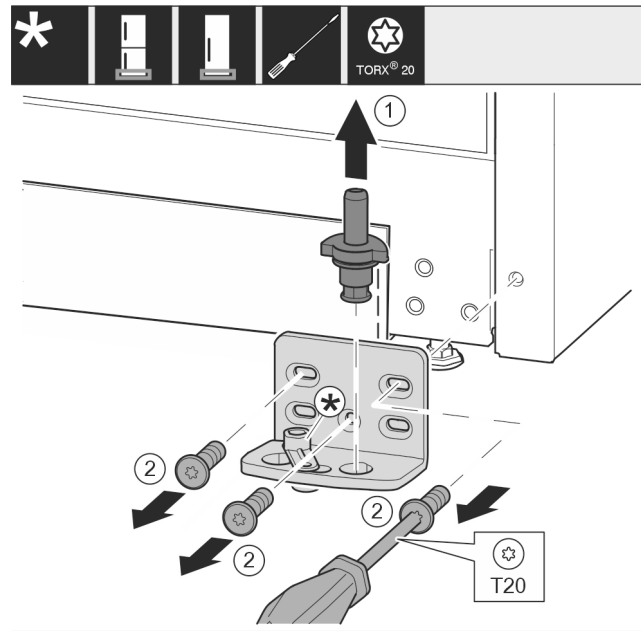

Fig. 13
- ▶ Lift the bearing pin completely upward and remove it. Fig. 13 (1)
- ▶ Remove the screws with the T20 screwdriver and take off the bearing bracket. Fig. 13 (2)